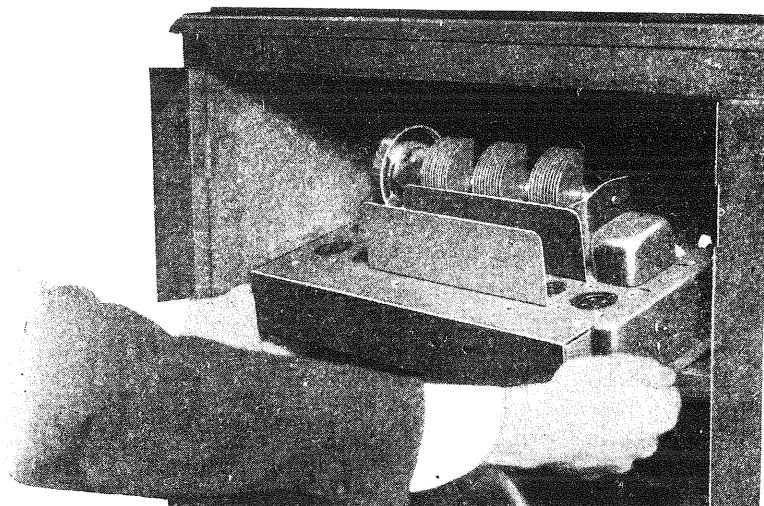

Figure 23—Removing receiver chassis from cabinet
- (i) The receiver assembly may now be lifted clear of the cabinet. (See Figure 23.) Place the volume control up and remove the two screws and nuts that hold it in place. The three soldered connections must also be removed.